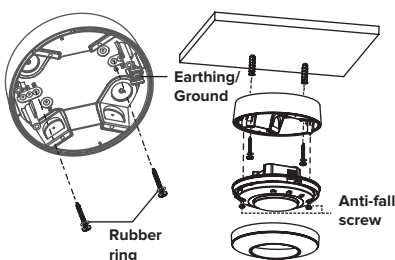

FIG. 13
- For mounting on a ceiling panel, use the 2 round recesses in the housing and secure the housing with the 2 screws with rubber rings (FIG. 13).
- Connect the wiring and secure the sensor in the housing with the anti-fall screws (FIG. 13).